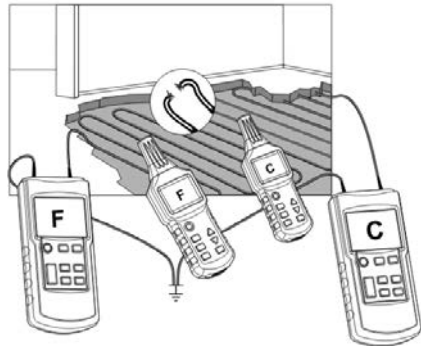

Fig.13b
- Connect the two transmitters (if two transmitters are used) as shown in Fig. 13b.